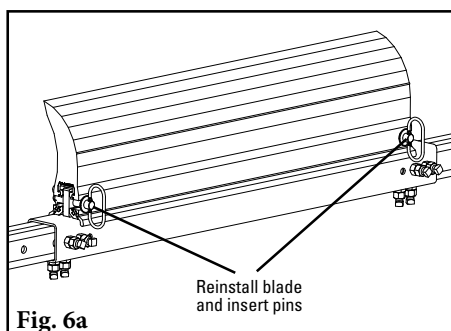
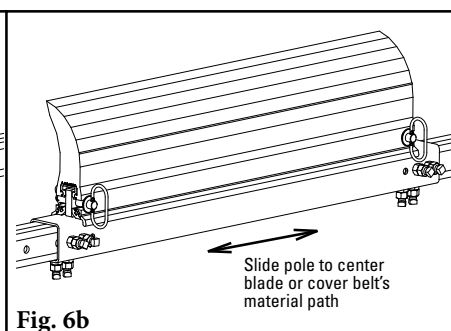
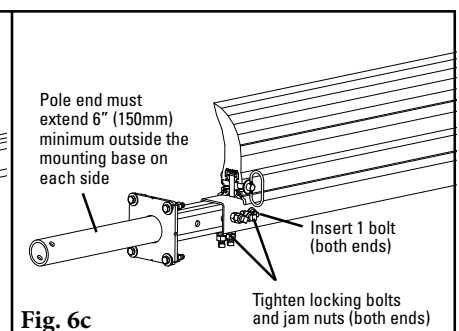

Fig. 6a
Fig. 6b
Fig. 6c
6. **Centre the cleaner on the belt and lock in place.** Reinstall the blade (Fig 6a). Slide the pole until the blade is centred or covers the material path (Fig. 6b). NOTE: Standard blade coverage is belt width minus 150mm. If less blade coverage is required, there are additional blade hole positions available on the pole for use of belt width minus 300 x 450mm. Adjust the extender poles until the pole ends extend out past the mounting plates at least 150mm on each side for the tensioner installation (Fig. 6c). Slide the extender poles in the centre pole to align with the centre pole mounting holes and insert both bolts. Lock the four centre pole locking bolts and tighten the locking bolt jam nuts.